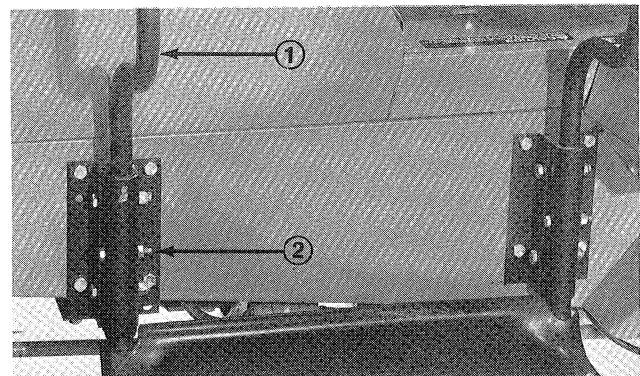

Figure 5
2. Insert legs of upper support tube assy. into lower support tubes and secure with (2) $5/16$ -18x2- $1/4$ " lg. capscREWS and locknuts (Fig. 5).